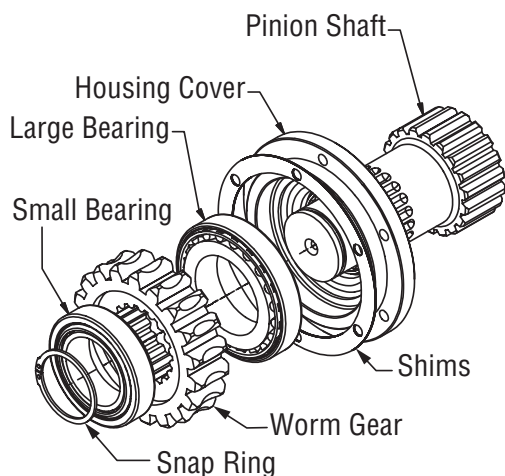

Figure 5-40, Pinion Shaft Assembly
16. Install the pinion shaft assembly and shims (if applicable). (Figure 5-40)